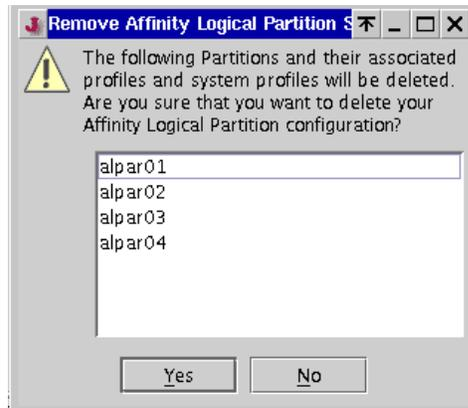

Figure 6-19 Confirm the removal of all the affinity logical partitions
3. Click **Yes** in the Remove Affinity Logical Partition window, as shown in Figure 6-19.